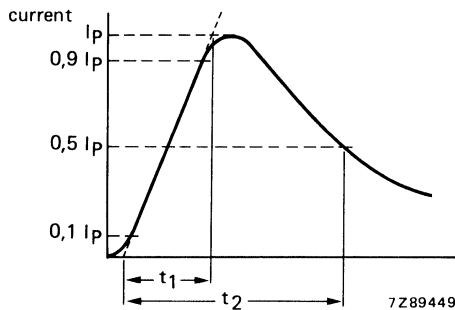

Fig. 5.
6. High energy surges are generally of longer duration. The max. energy for 1 impulse 10/1000 μ s is given as a reference for long duration impulses. This impulse can be characterized by peak current I_p and impulse width t_2 (virtual time to half I_p value, defined in IEC 60-2 section 6), see Fig. 5. If V_p is the clamping voltage corresponding to I_p , the energy absorbed in the VDR is determined by equation $E = K \cdot V_p \cdot I_p \cdot t_2$; K depends on t_2 . When t_1 is 8 to 10 μ s and $t_2 = 20 \mu$ s, $K = 1$; when $t_2 = 50 \mu$ s, $K = 1,2$; when $t_2 = 100 \mu$ s, $K = 1,3$; when $t_2 = 1000 \mu$ s, $K = 1,4$.